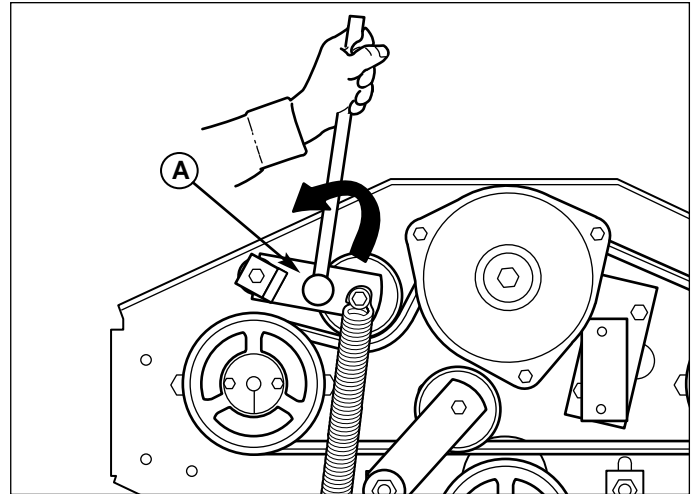

Figure 42. Pump Belt Removal & Replacement
3. Using a 1/2" breaker bar, place the square end in the square hole located in the middle of the idler arm (A, Figures 42). Carefully rotate the breaker bar counter-clockwise, which will relieve the tension on the belts exerted from the idler arm.
2. Carefully rotate the idler arm with the breaker bar counter-clockwise (see Figure 42) and wrap the belts around the bottom side of the idler arm pulley and place the belts in the left-hand pump pulley grooves.